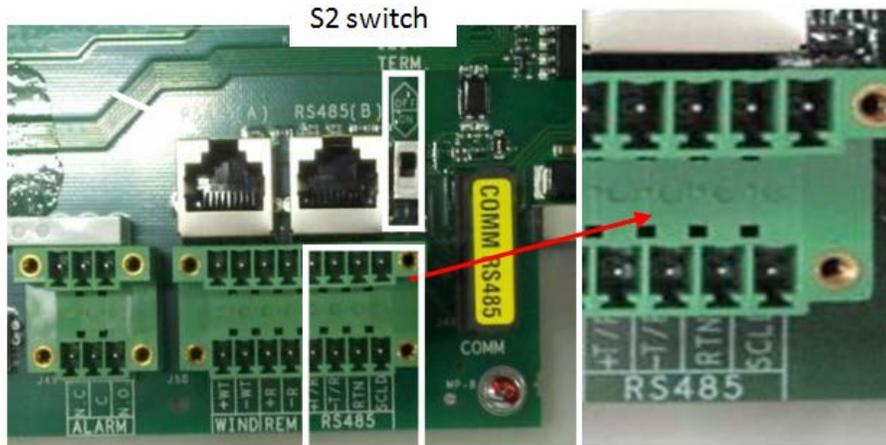

Figure 2.09 - Standard RS485 Connection
- Connect alarm cable to the mating connector (in hardware kit) and plug connector into position shown in Figure 2.09.
- b) If using standard multi-wire cable (e.g., Belden 3106A) locate the mating connector (hardware bag) and connect the three RS-485 leads. Plug connector into position shown in Table 1; second connector is to facilitate daisy chaining. See Table 2.01 and Figure 2.09 or refer to the multi-system wiring section.